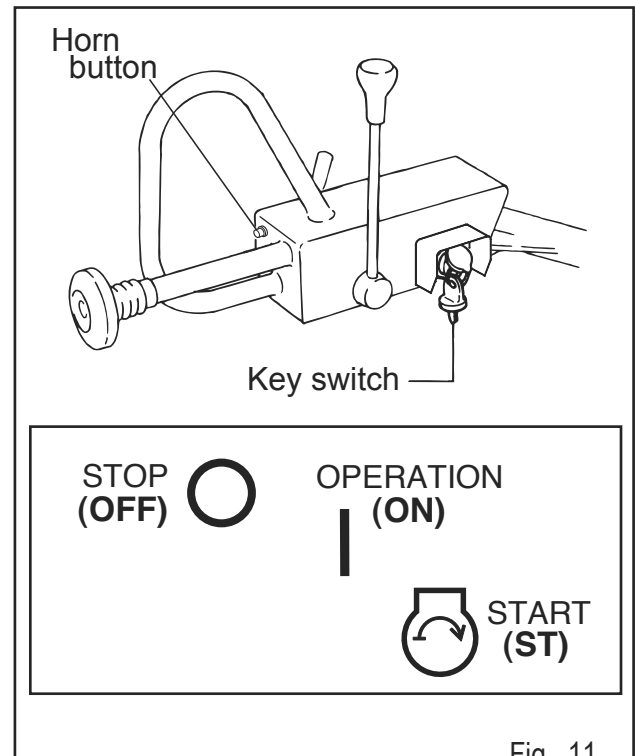

Fig. 11
- a. Insert the key into the key switch and turn the key to "ON" (Operation) position. Make sure that a buzzer goes off when the key is turned to ON.(Fig.11)
- Returning the throttle lever forward causes the engine to stop. In case of starter motor type, return the key switch to STOP position also as soon as engine stops. (Fig11)